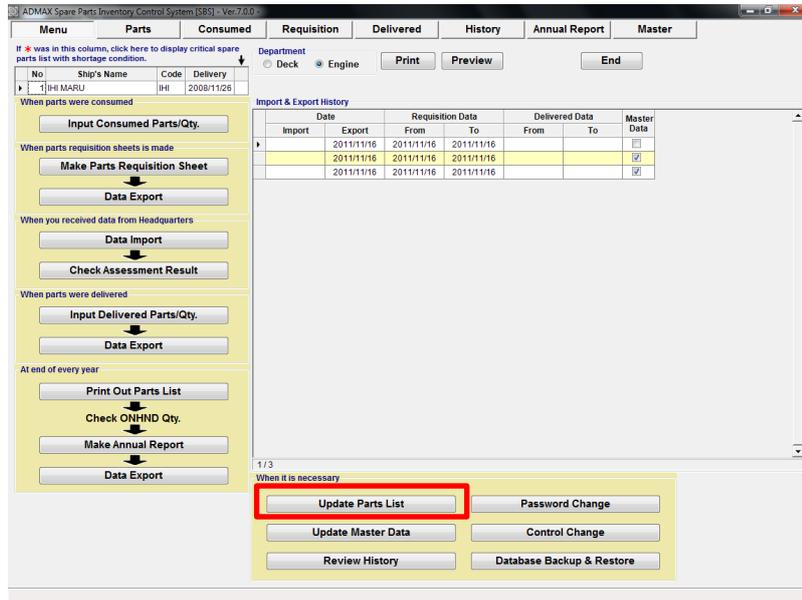

Fig 11.1 Menu
1. On the “Menu Screen”(Fig.11-1), select [Update Parts List].